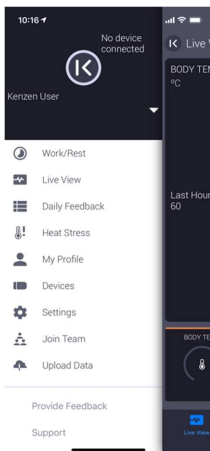

Figure 11: Main Menu
5. Go to Main Menu by pressing the Kenzen “K” logo or your custom image in the upper left corner of the Live View screen (Figure 11).